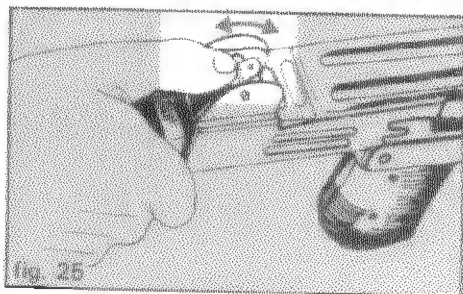

fig. 25
2. After loading the gun as previously described, place rear sight at required range 100 or 200 m. (fig. 25)